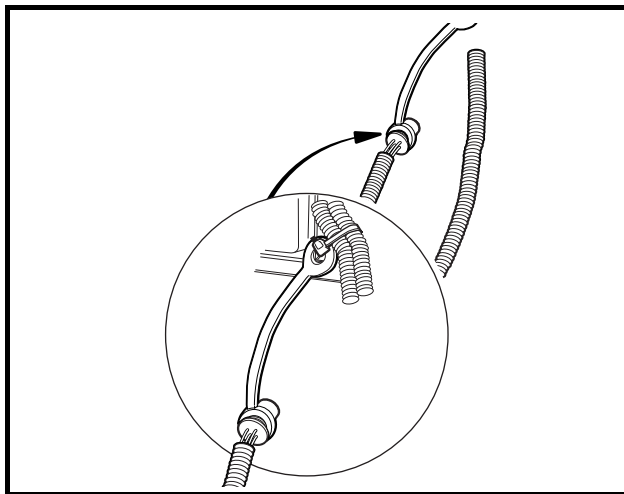

Figure 12-8 IQDM Jack Under Seat in Stowed Position
1. Lift and remove seat and locate IQDM jack under seat (**Figure 12-8, Page 12-18**).